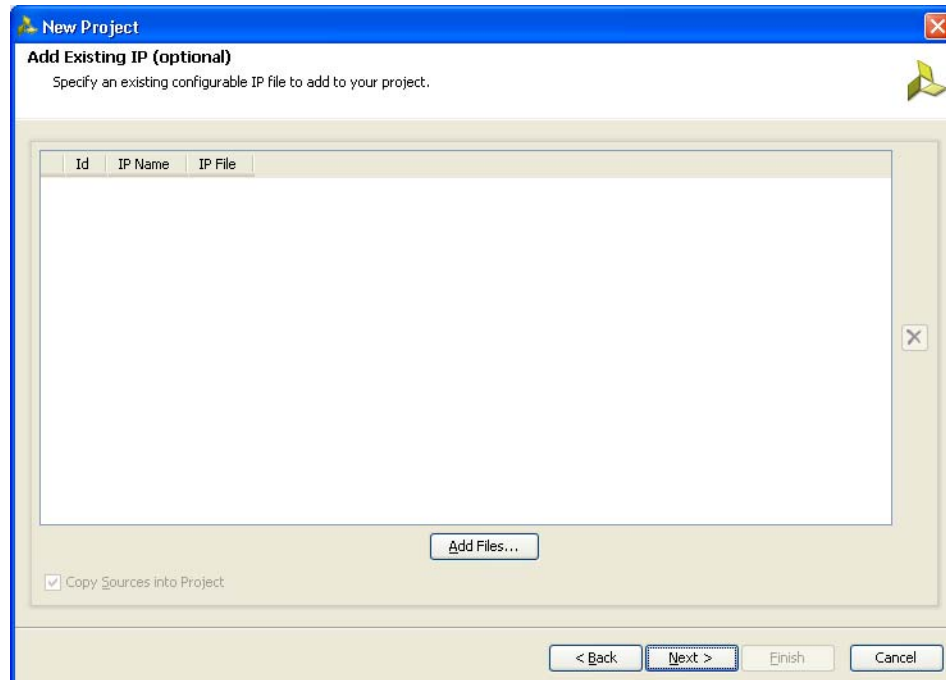

Figure 4-6: **Add Existing IP (Optional)**
- Click **Next** to open the **Add Existing IP (Optional)** page (Figure 4-6). If the IP is already created, the XCI file generated by the IP can be added to the project and the previous created IP files are automatically added to the project. If the IP was not created earlier, proceed to the next page.